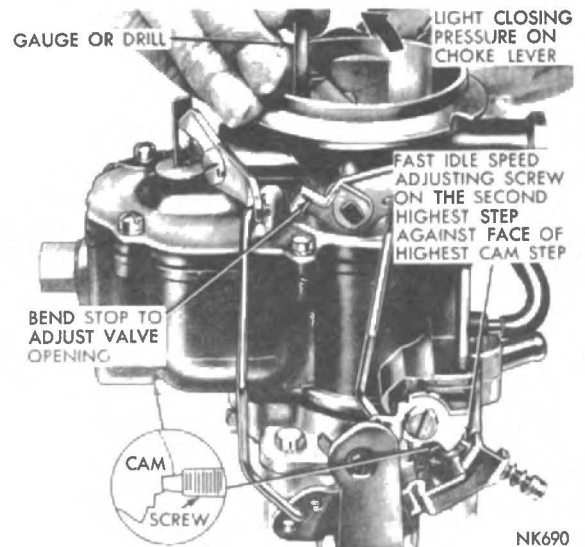

Fig. 12 Fast Idle Cam Position Adjustment
(1) With the fast idle speed adjusting screw contacting the step on the fast idle cam shown in (Fig. 12), move the choke
(2) An adjustment will be necessary if a slight drag is not obtained as the drill or gauge is being removed.
(3) If an adjustment is necessary, bend the stop of the shaft lever, using Tool T109-22, until the correct valve opening has been obtained. Refer to (Fig. 12).